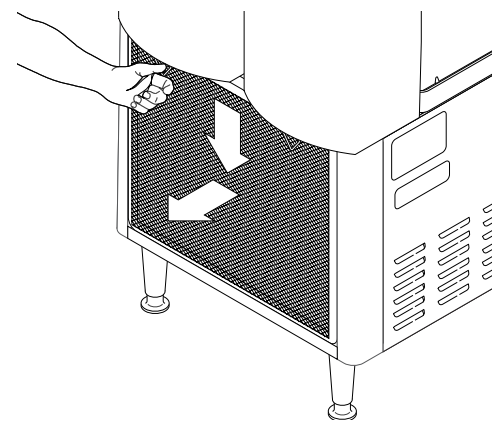

FIG 6
16. Remove and clean condenser air filter. See FIG 6.